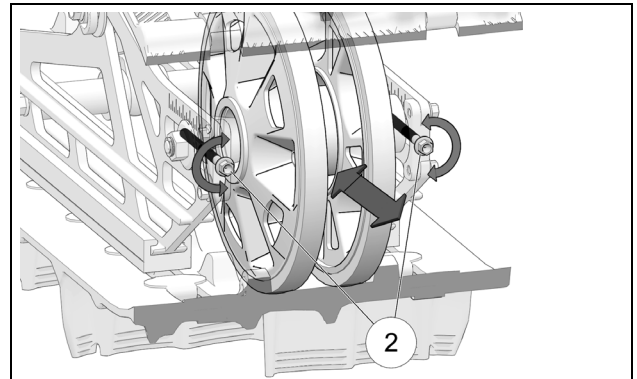

Figure 51
- Rotate the right and left rear wheel axle adjusting bolts (2) an equal number of turns, clockwise or counterclockwise, to set the Track to the recommended tension. See Figure 51.